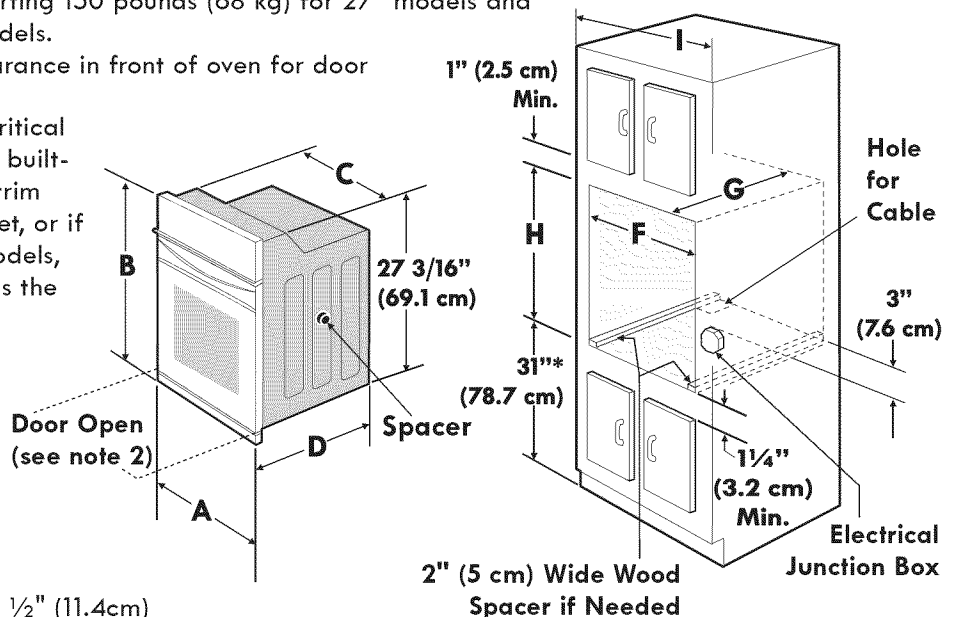
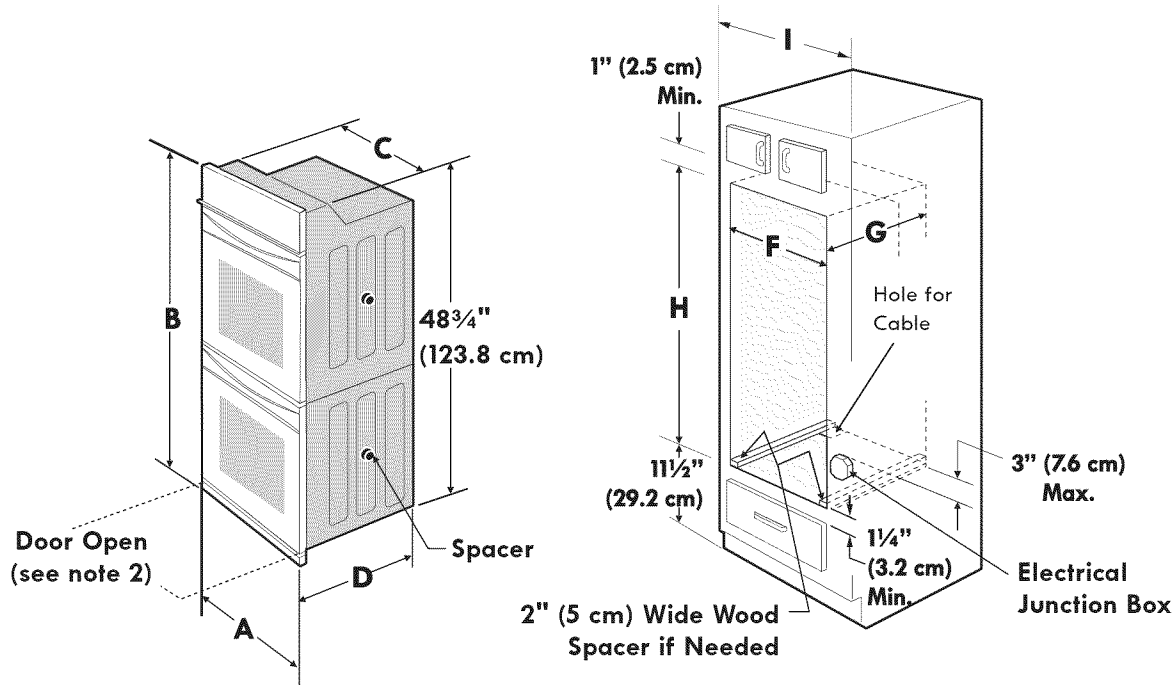

Figure 1
Figure 2
27" and 30" Single Wall Ovens (Double ovens see Figure 2)
27" AND 30" DOUBLE OVENS (Single Ovens see Figure 1)
Refer to figure 1 or 2 for the dimensions applicable to your appliance, and the space necessary to receive the oven. The oven support surface may be solid plywood or similar material, however the surface must be level from side to side and from front to rear.
Oven height can be adjusted with 2" (5 cm) wide wood shims when needed to fit into an existing cabinet cutout opening, when cutout height exceeds $27\frac{13}{16}$ " (70.6 cm) for the single wall oven or $49\frac{1}{4}$ " (125.1 cm) for the double wall oven (see Figure 1 or 2). Place shims of appropriate height beneath the oven side rails.
2. These appliances should be connected to the fused disconnect (or circuit breaker) box through flexible armored or nonmetallic sheathed cable. The flexible armored cable extending from the appliance should be connected directly to the junction box. The junction box should be located as shown in Figure 1 or Figure 2 and with as much slack as possible remaining in the cable between the box and the appliance, so it can be moved if servicing is ever necessary.